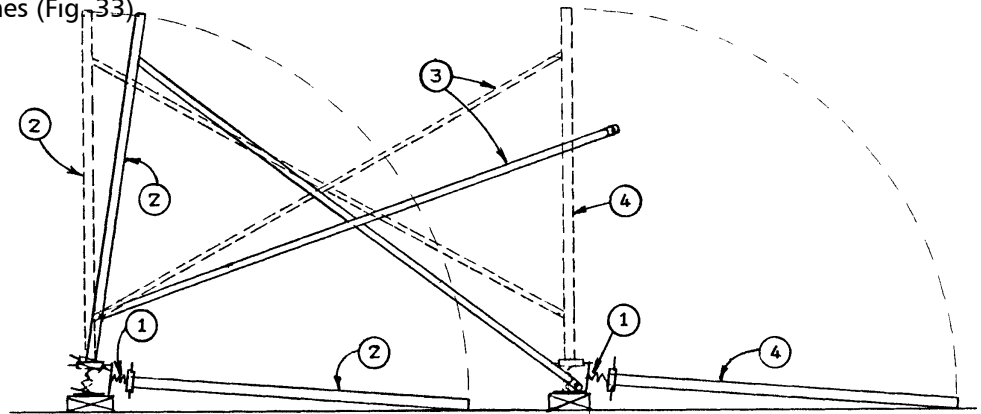

Fig. 33
- Tilt up a frame on sill and install one cross brace. Allow end of cross brace to rest on the opposite side frame sill. Raise the opposite side frame on sill and attach free end of the cross brace. Install second cross brace to frames (Fig. 33)